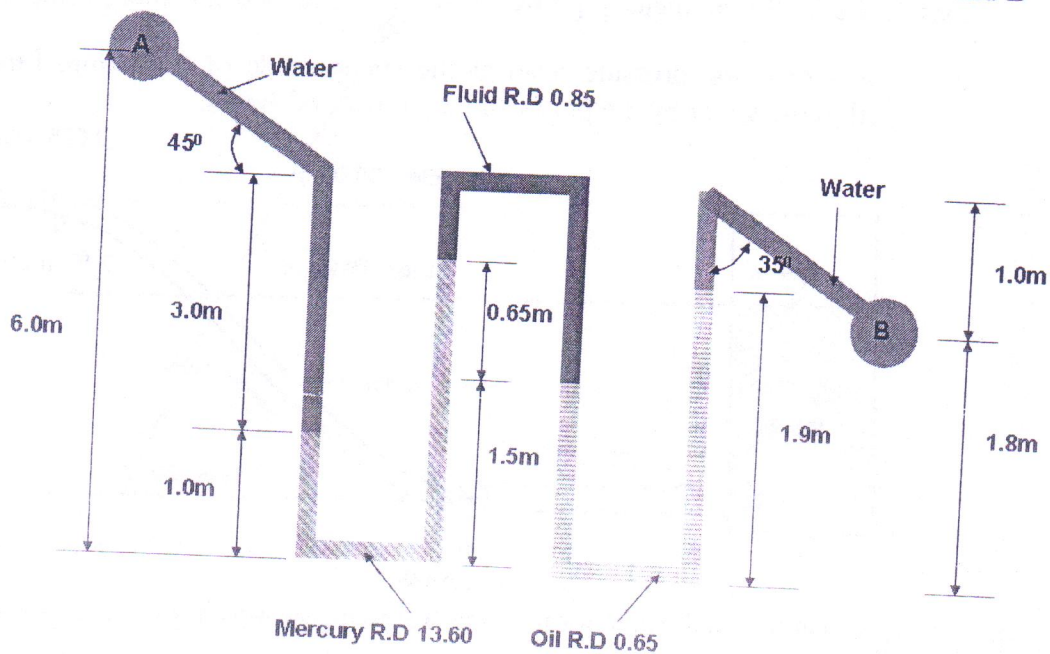

Figure-01
b) Figure-01 shows a compound manometer. Find the pressure between A and B